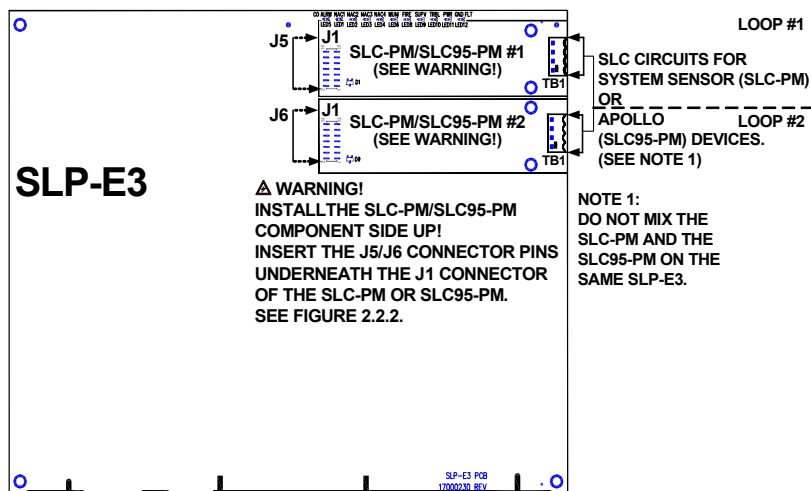
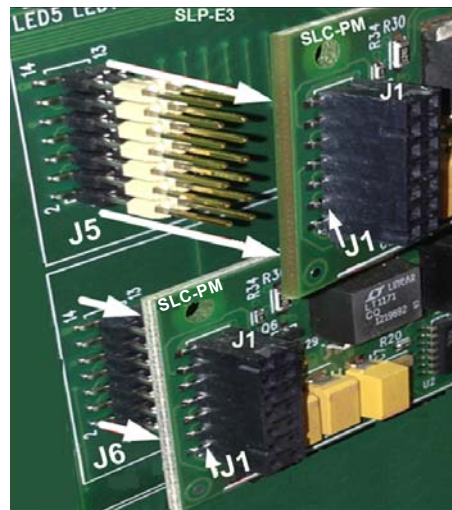

Figure 2.2.1 SLC-PM OR SLC95-PM Mounted to the SLP-E3
Figure 2.2.2 SLC-PM OR SLC95-PM J1 Connector, Plug-in Orientation
6. Plug-in the J1 connectors from each of the SLC-PM or the SLC95-PM modules to the clearly marked sites of J5 and J6 connector pins on the SLP-E3 main board. (See Locations 1 and 2 in Figure 2.2.1 and the white arrows in Figure 2.2.2). Do not combine the SLC-PM and the SLC95-PM modules on the same SLP-E3 board.
INSERT THE SLP-E3, J5 AND J6 CONNECTOR PINS TO THE J1 CONNECTORS UNDERNEATH EACH OF THE SLC-PM OR THE SLC95-PM BOARDS. TO VIEW THE ILLUSTRATION OF THE J1 CONNECTOR, PLUG-IN ORIENTATION, REFER TO FIGURE 2.2.2.
(To view the J5 and J6 connector pins plug-in orientation to the J1 connectors, refer to the white arrow lines in Figure 2.2.2).
Figure 2.2.1 illustrates the SLC-PM modules mounted onto the SLP-E3 panel. Figure 2.2.2 shows the J5 and J6 connector pins, plug-in orientation to the J1 connectors underneath each of the SLC-PM boards.